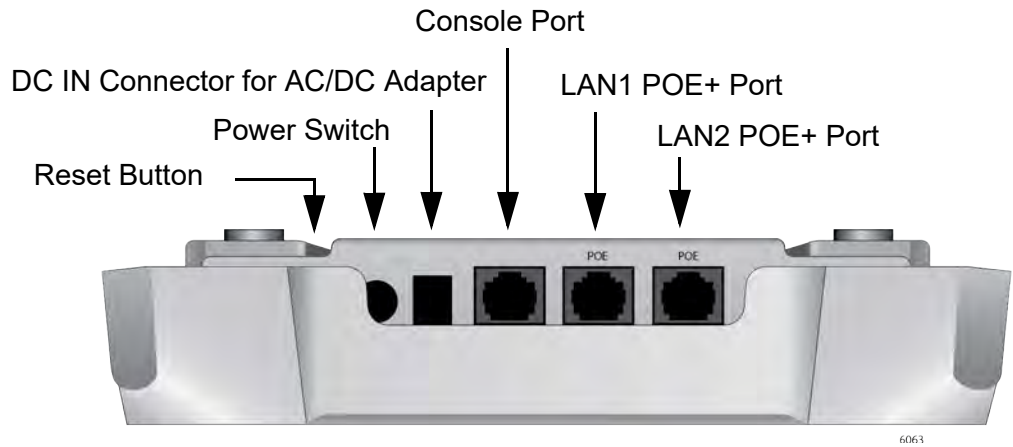

Figure 4. Back Edge View
The back edge view is illustrated in Figure 4.
- Power Switch** The Power Switch on the back panel in Figure 4 on page 22 turns On or OFF the access point when power is supplied to the access point only from the AC adapter, not from PoE LAN ports.
- Reset Button** The access point has a Reset button on the back edge in Figure 4 on page 22 for returning the parameter settings of the device to their default values. You might reset the access point if you want to discard its current configuration or if you forgot the manager password and so cannot manage the device.